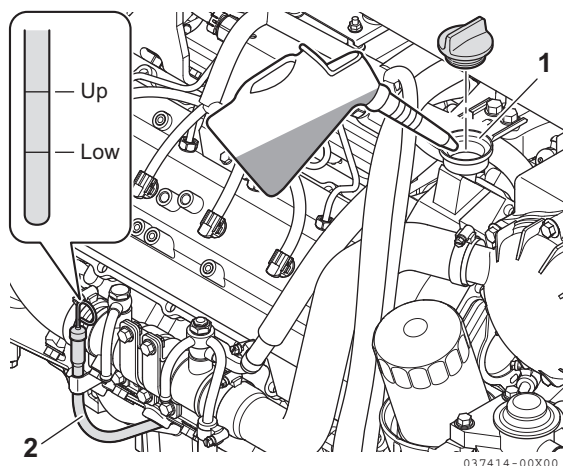

Figure 5
2. Remove dipstick (2, **Figure 5**) and wipe with clean cloth.
1. Remove the yellow oil filler port cap from filler port (1, **Figure 5**) and fill with engine oil.
2. Fill with oil to the upper limit on the dipstick (2, **Figure 5**).